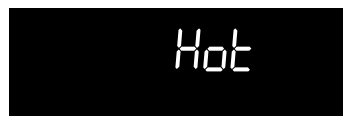

Fig. 3
1. The time of day and "**Hot**" will show in the display (See Fig.3).